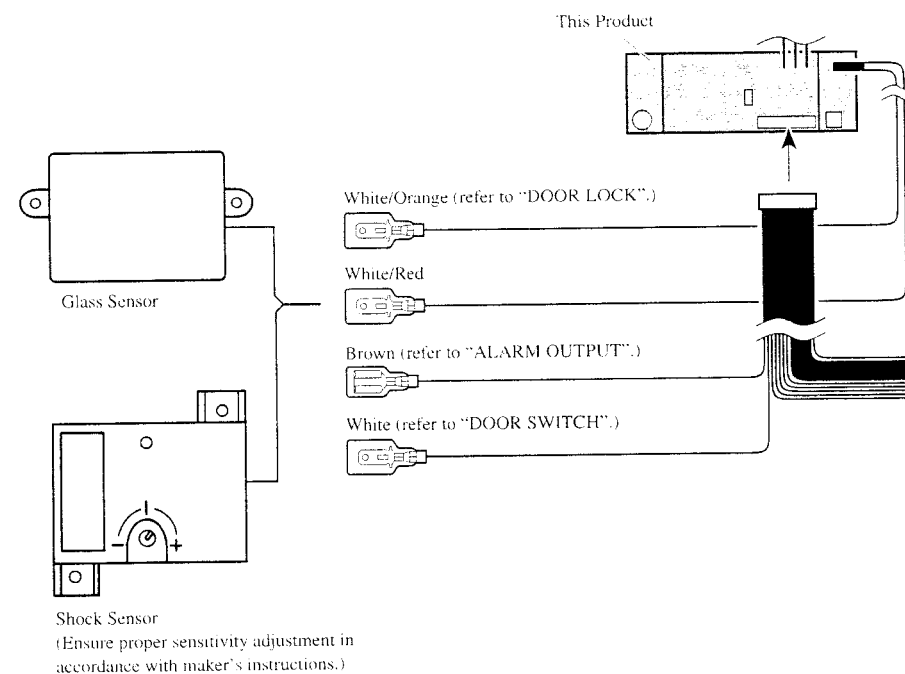

Fig. 6
- White/Red (ALARM SENSOR)** (Fig. 6)